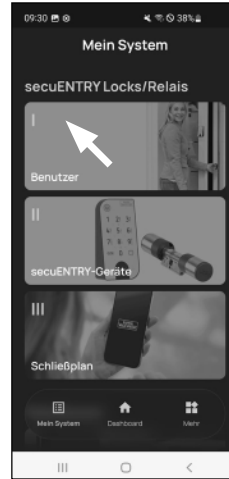

Fig. 2
- 2 Tap on the menu item "I - User" (Fig. 2).
- 3 A list of the users that have already been created is displayed. Tap the user for which you want to set up the RFID transponder (Fig. 2).